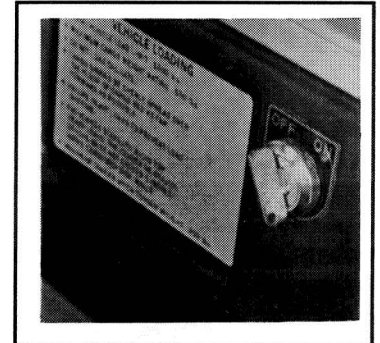

Figure 2
**Key Switch** - The key switch is mounted on the dash to the right of the steering column (See Figure 2). It has two (2) positions, "On" and "Off" which are clearly labeled. Remove key in the "Off" position only.